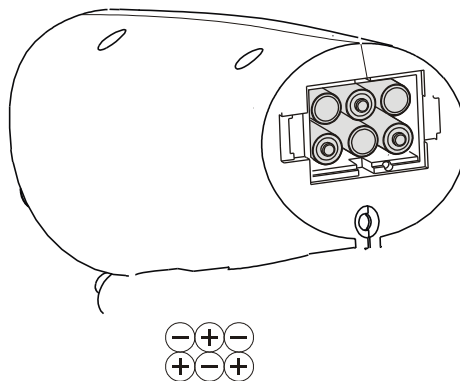

Figure.6
2. Insert six pcs AA batteries into the compartment as indicated by the polarity symbols marked inside the compartment (Figure.6).